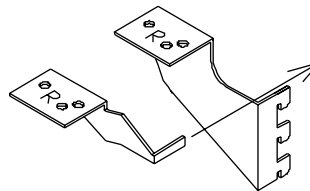

FIG. 2
5. Slide the thin tab on the WSB lock clip into the remaining slot opening above the top tooth of the WSB (Figure 2) until the bracket and the lock clip mate together (Figure 3).